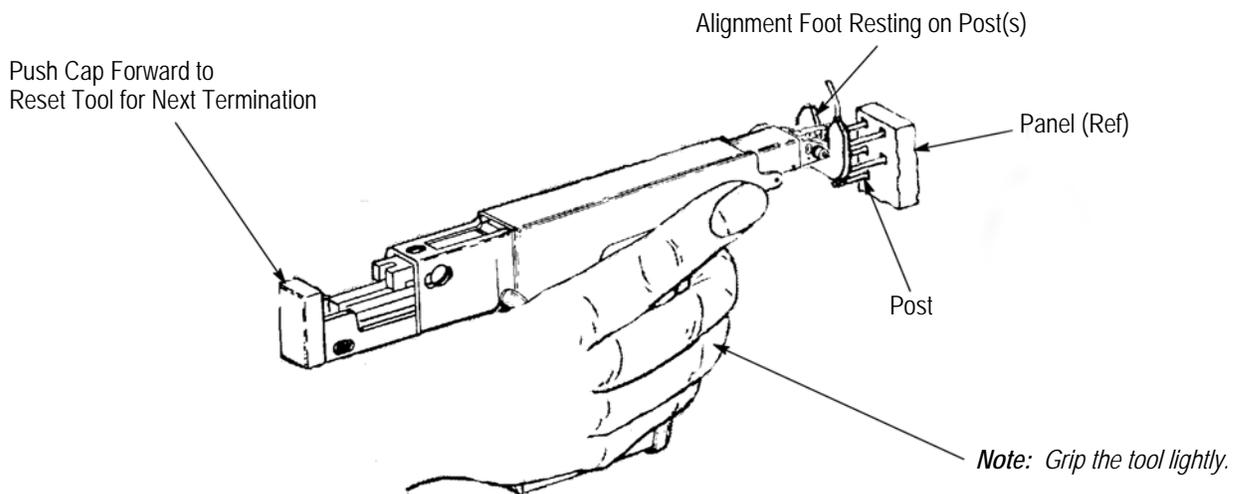

Figure 9
3. Hold the tool perpendicular to the panel and slip the exposed clip over the end of the post. See Figure 9.
6. With the trigger released, push the cap on the back of the tool (Figure 9) fully forward to reset the tool for the next termination.